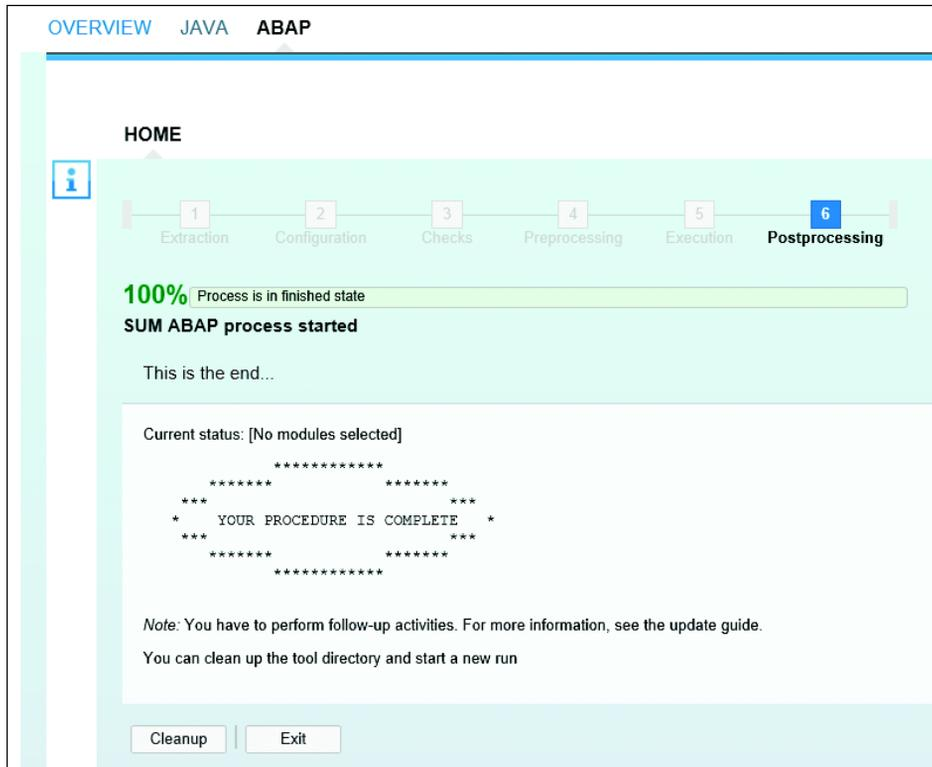

Figure 82 Final Options in Upgrade
5. Once the ABAP side finishes, it will prompt you to send feedback to SAP. Once complete, read the information provided and follow the steps in any of the notes listed. You can then either clean up the SUM utility or close SUM. We chose to close the utility for now, as once the utility is removed you will not be able to revert any of the upgrade without a full system restore. The options provided are shown in Figure 82.